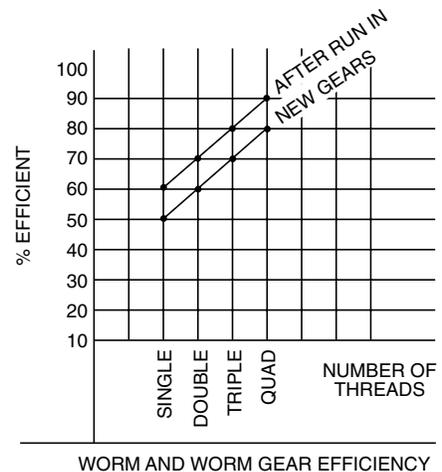

Figure 4.12A
**See for yourself:** Take a look at figure 4.12A. Note how the efficiency of a worm and worm gear drive increases as the teeth wear in.